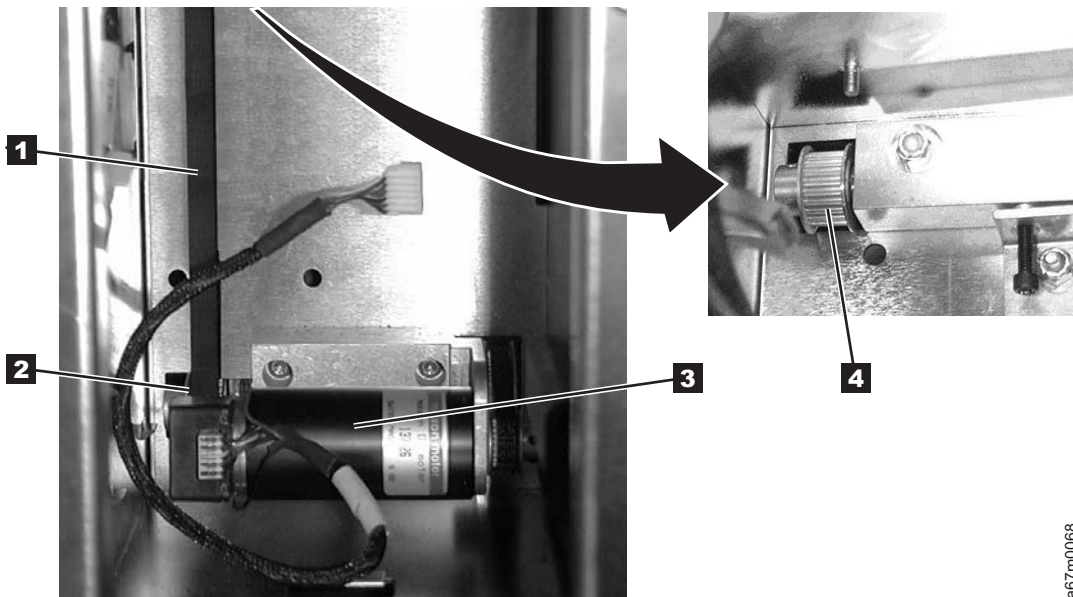

Figure 8-17. Stud and Tension pulley
2. See Figure 8-17. Take new belt so teeth are away from you. Thread one end over idler pulley **4** so belt teeth mesh with idler pulley teeth. You will need to keep idler pulley from turning by using paper to act as a brake.